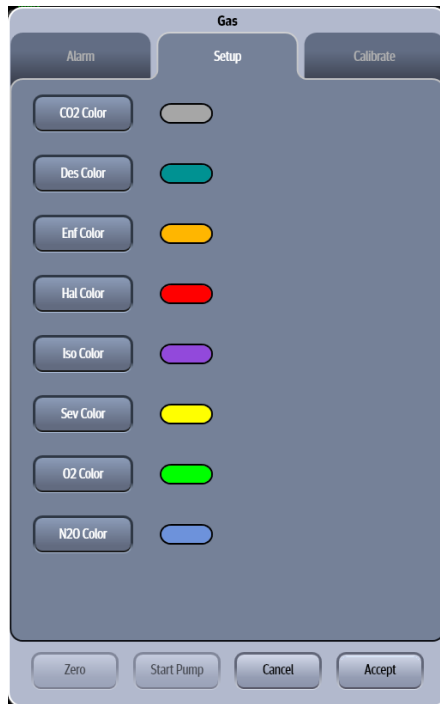

FIGURE 2-4 Example Gas Dialog (Setup Tab)
2. Select the **Setup** tab (as shown in FIGURE 2-4).